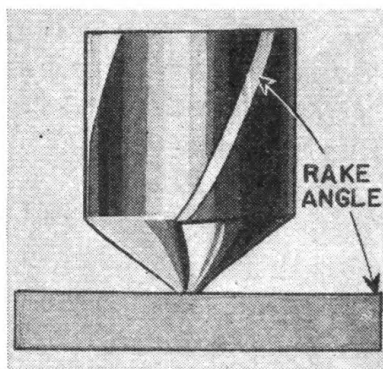
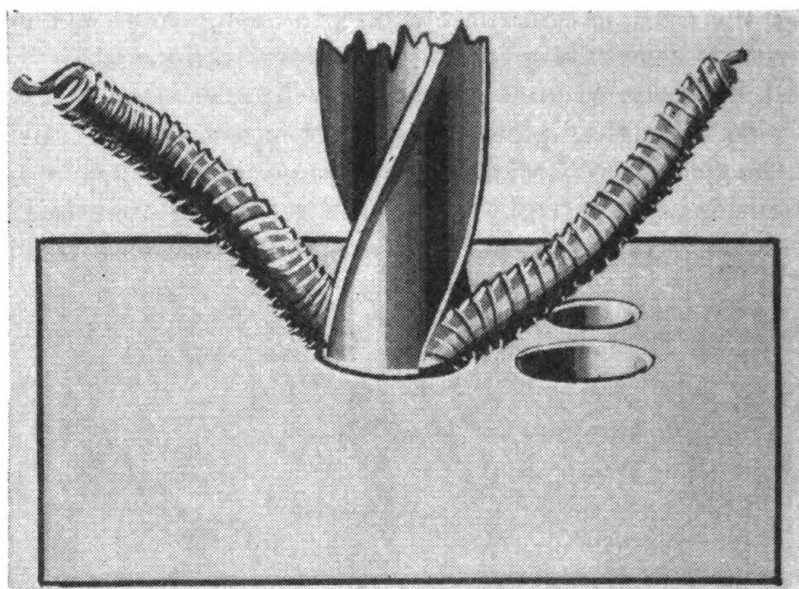

FIGURE 40.—Rake angle.
FIGURE 47.—Correct curl of chips.
- (1) They give a correct rake to the lips, as shown in figure 40.
- (2) They cause chips formed while drilling to curl tightly so that they occupy the minimum amount of space.
e. Rake angle.—The rake angle of a drill is the angle of the flutes in relation to the work, as shown in figure 40. It is usually between 22° and 30° . If this angle is too small, it makes the cutting edge so thin it may break under the strain of the work. The rake angle also partly governs the tightness with which the chips curl, and hence the amount of space they occupy. Figure 47 shows how chips